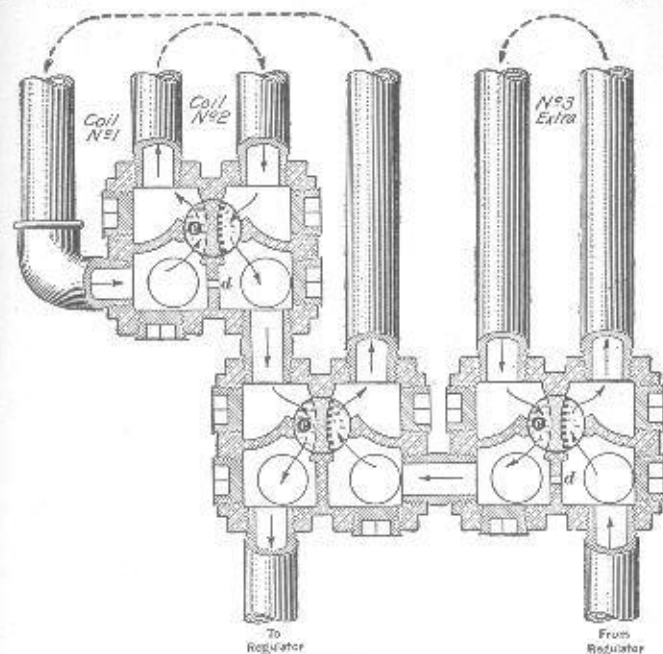

FIG. 23
17. Connection in Parallel Series.—A combination parallel and series arrangement is shown in Fig. 23. The object of this arrangement is to permit of an extra coil, No. 3, being used entirely independent of coils No. 1 and No. 2. It will be noted that vapor can be turned on or off coil No. 3 by opening